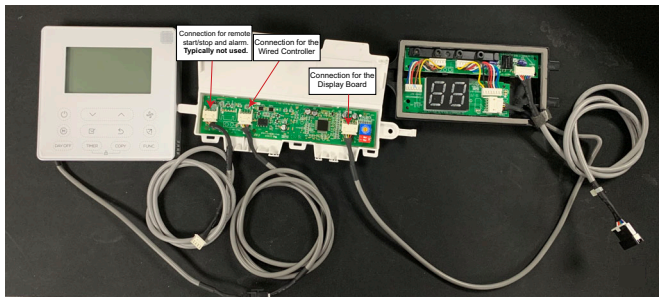

Fig. 13 — Wired Controller, Adapter Board, and Display Board
3. Identify the components shown in Fig. 13 (from left to right; the wired controller, adapter board and the display board).